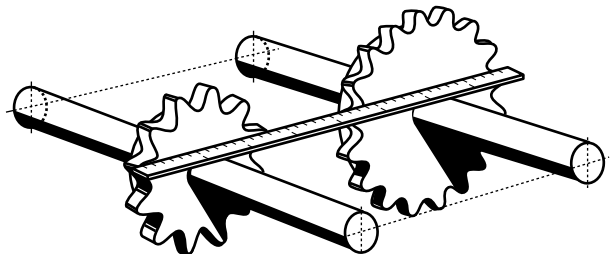

Figure A-2—Align Sprockets
2. The sprockets must be mounted on the shafts as closely in line axially as practicable, normally with a straight edge or a length of piano wire (See Figure A-2). In practice, the maximum amount of axial misalignment is obtained from the following formula: